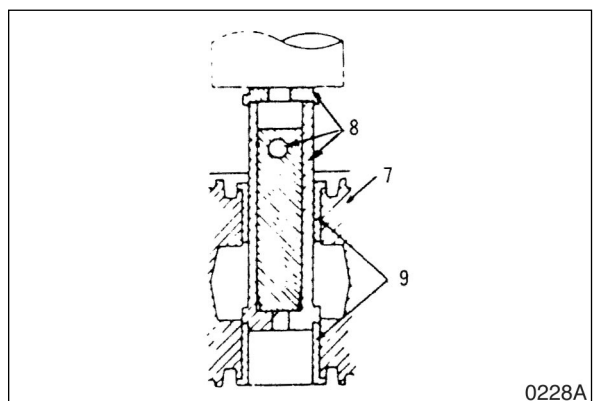

Figure 26
6. Remove bushing (8, Figure 26) with the press and special tool (ST-1909).